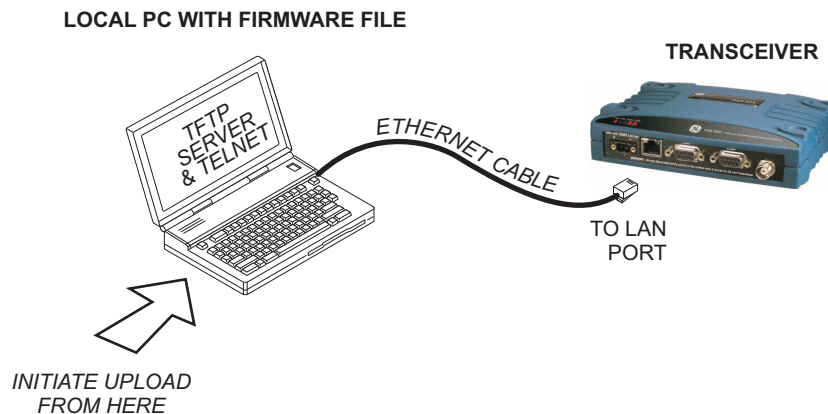
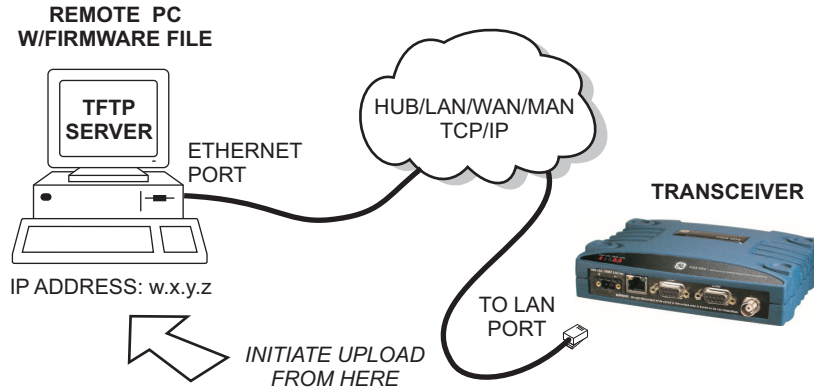

Figure 20. Firmware Upgrade Setup—Option 1
Figure 21. Firmware Upgrade Setup—Option 2
There are several alternatives to connecting the transceiver for firmware upgrade. Figure 20 and Figure 21 show two common methods. *It is essential that all of the equipment be on the same subnet.*
1. Connect an Ethernet cable between the radio’s LAN port and the PC (refer to Figure 20 or Figure 21, as applicable). Verify that the yellow LED on the radio’s LAN port lights and stays lit. This verifies that the network is functioning.